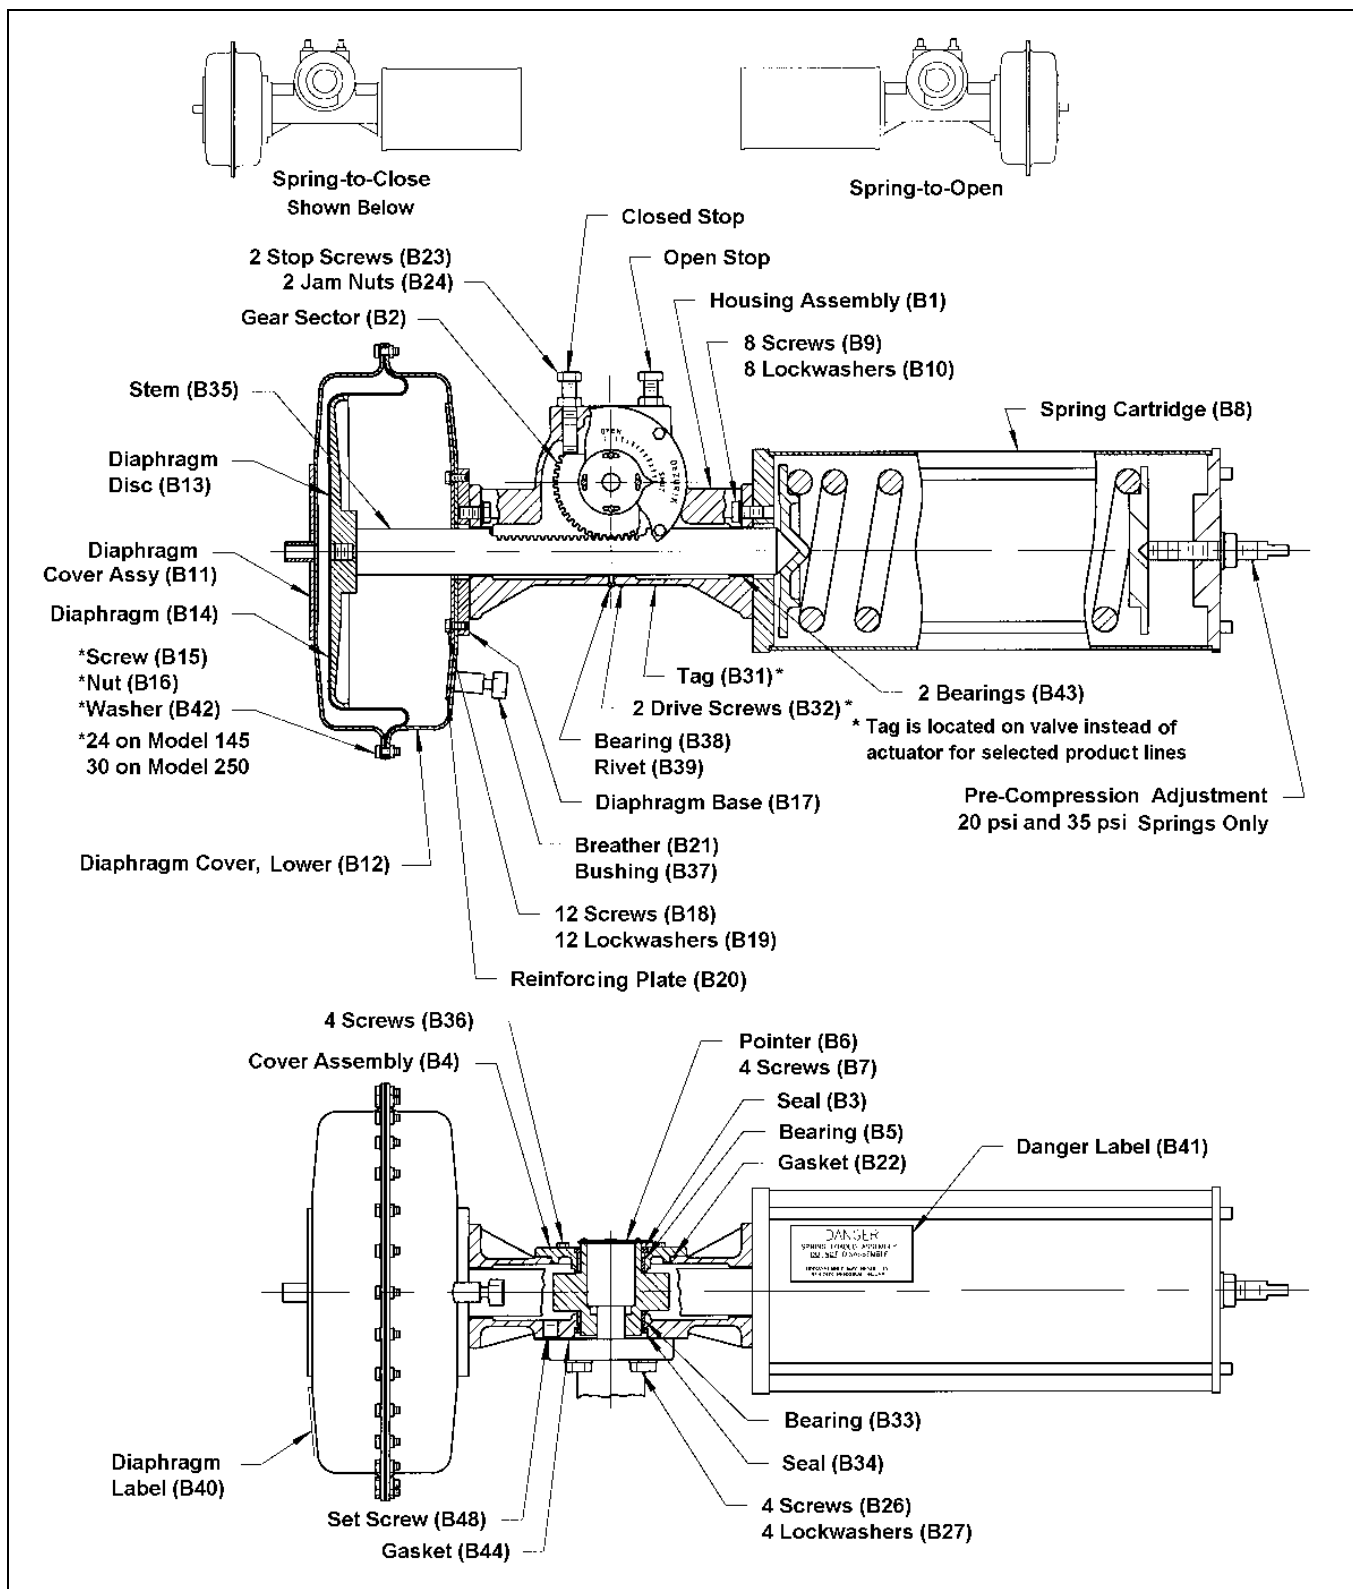

Figure 1-Parts Identification
The actuator is powered pneumatically, and rotates 90 degrees between the open and closed positions. The action of the actuator is either spring-to-close or spring-to-open, as determined by the orientation of the diaphragm and the spring cartridge, as shown in Figure 1. The action selected is shown on the actuator label. With spring-to-close, increasing signal pressure to the actuator opens the valve, and decreasing pressure closes the valve; with spring-to-open, increasing pressure closes the valve, and decreasing pressure opens the valve.
The open and closed position stops are the two hex head cap screws (B23) shown in Figure 1. The stops are adjustable and prevent the actuator from rotating beyond the open and closed positions of the valve. If the actuator is factory-mounted on the valve the stops are preset and do not require further adjustment. If the actuator is not mounted on the valve or if the actuator is removed and/or disassembled, the stops will require adjustment as described below. Refer to the Valve Instructions for the closed position requirements and adjust the stops with the actuator mounted on the valve. Refer to Figure 1 for component identification.
2. Loosen the jam nut (B24) on the appropriate stop screw (B23). Refer to Figure 1.
Pre-compression in the 20 PSI and 35 PSI (140 kPa and 240 kPa) springs only is adjustable. The springs are factory set so that air pressure of 5 PSI (35 kPa) less than the spring rating will just open the valve for spring-to-close or will just close the valve for spring-to-open. Pre-compression in 60 PSI (420 kPa) springs is not adjustable. Pre-compression settings in a 20 PSI or 35 PSI (140 kPa and 240 kPa) spring may be adjusted several PSI (kPa) by following the steps below. Refer to Figure 1 for component identification.
Refer to Figure 1 for component identification.
Before assembling the actuator, clean and inspect all parts. Worn parts-especially seal and bearings-should be replaced. Refer to Figure 1 for component identification and orientation. Note that the diaphragm, spring cartridge and gear sector positions depend upon whether the actuator action is spring-to-close or spring-to-open.
6. Note that the stem (B35) has one tooth with a punch mark, and the gear sector (B2) has two pair of teeth with punch marks. The one marked tooth in the stem must mesh between the pair of marked teeth that will provide 90° of gear sector rotation as the stem moves in the direction of the air stroke. The spring-to-close and spring-to-open configurations are shown in Figure 1. Accordingly, place the gear sector in position in the housing assembly (B1).
Follow the steps below to change the actuator from spring-to-close to spring-to-open or vice versa. Refer to Figure 1 for component identification.
15. Note that the stem (B35) has one tooth with a punch mark, and the gear sector (B2) has two pair of teeth with punch marks. The one marked tooth in the stem must mesh between the pair of marked teeth that will provide 90° of gear sector rotation as the stem moves in the direction of the air stroke. The spring-to-close and spring-to-open configurations are shown in Figure 1. Accordingly, place the gear sector in position in the housing assembly (B1).